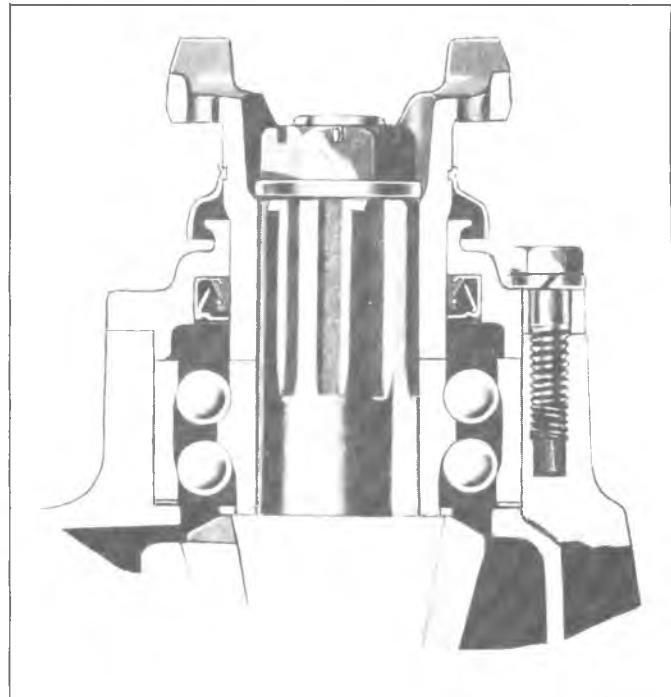

Fig. 77—Pinion Oil Seal—12-1/4" Axle
4. For 12-1/4" axles, remove the bolts retaining the oil seal retainer to the carrier, and remove the retainer. See figure 77.